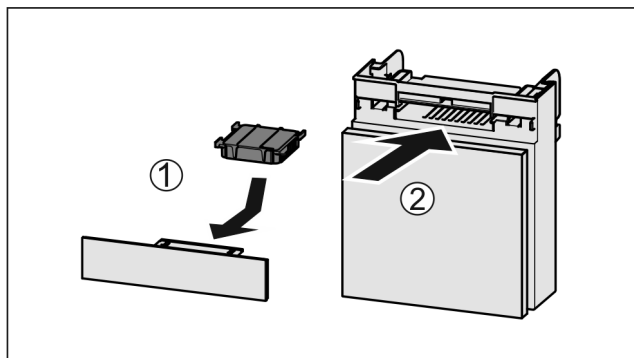

Fig. 201
- Insert the carbon filter as shown in the diagram Fig. 201 (1).
- Push the compartment in Fig. 201 (2).